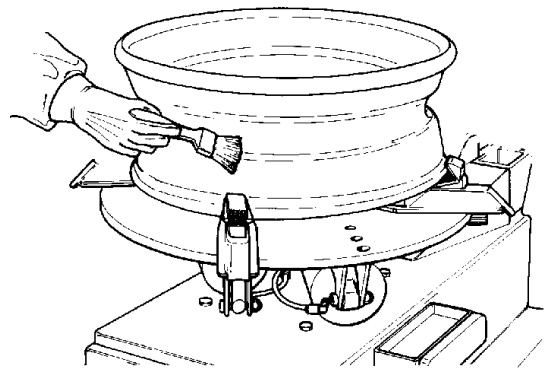

Fig.18
**A.** Clean entire rim surface (Fig.18).